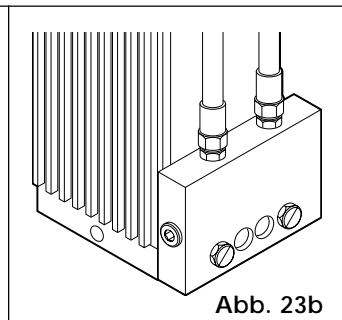

Abb. 23b
**SABOTAGE-SCHUTZVENTIL (Abb. 23b)**